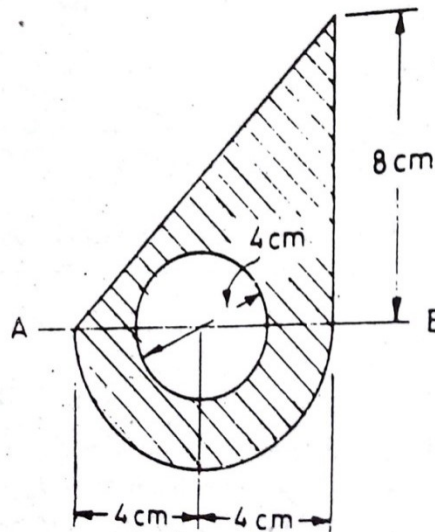

Figure 3.15
15. Determine the moment of inertia of the shaded area with respect to the centroidal axes parallel to AB as shown in Figure 3.15.